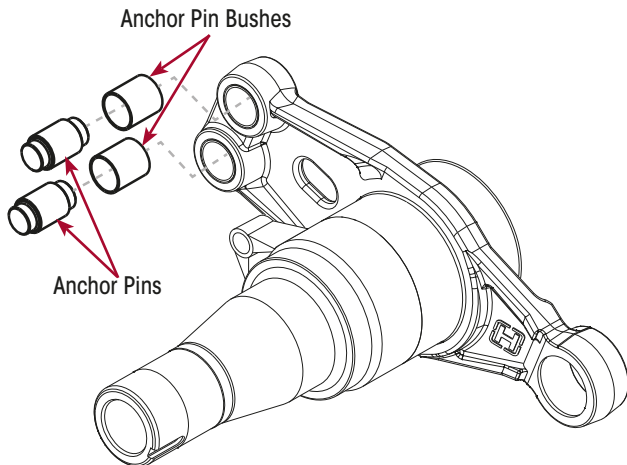

Figure 63: Anchor Pin & Bush Installation
1. Push out anchor pins. If necessary, spray pins with a penetrating lubricant. Tap out with a soft hammer or brass drift. Refer Figure 63.